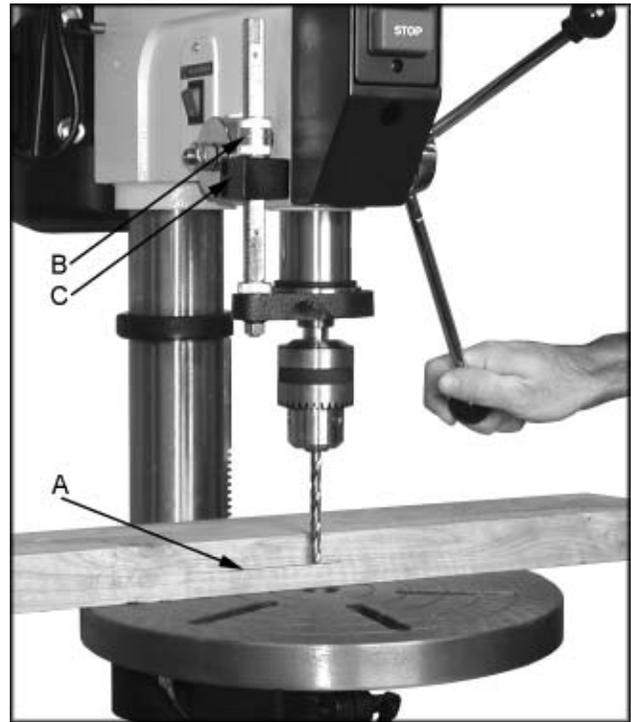

Fig. 7
1. Use a pencil to mark the depth the bit will drill into the workpiece (A, Fig. 7).
2. With the drill bit in the chuck, lower down feed handle to advance bit to your mark, see Figure 7.
3. With your other hand, advance the lock nuts (B, Fig. 7) on the depth stop rod until they are snug to the seat (C, Fig. 7).